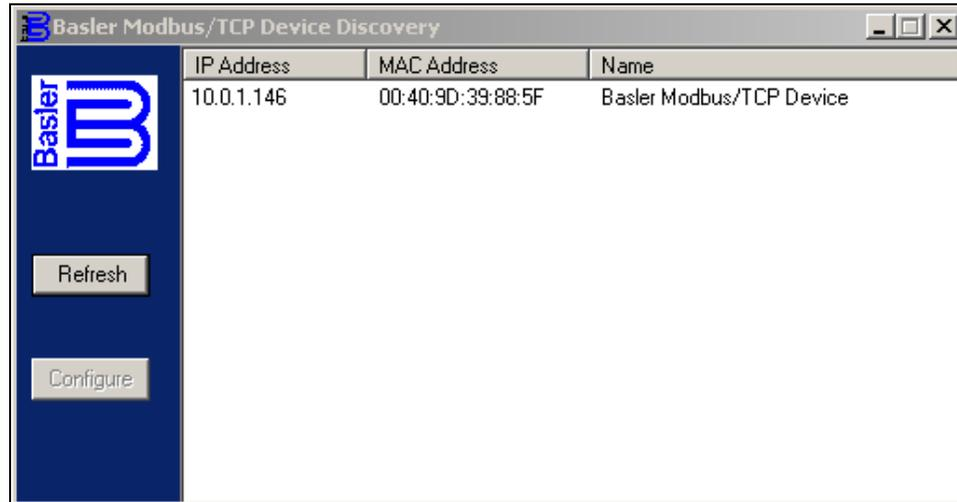

Figure A-4. Basler Modbus/TCP Device Discovery Screen
7. Open the Basler Modbus/TCP discovery program included on the BE1-700 CD. The BE1-700 relay will appear in the list after the *Refresh* button is pressed. See Figure A-4.